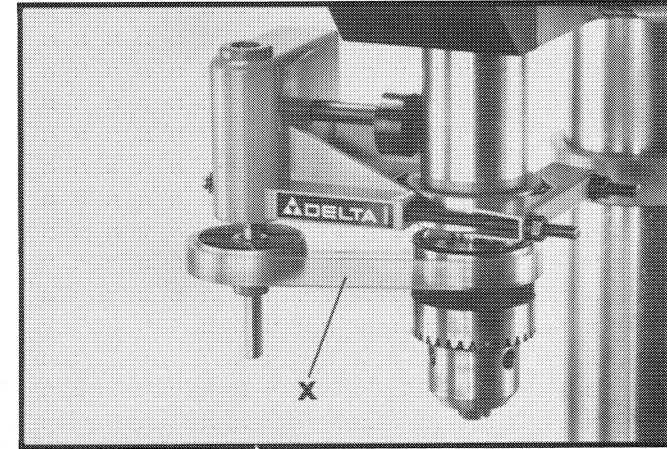

Fig. 15
13. Depending on the size of the drill press and chuck, choose either the short or the long drive belt and assemble the belt (X) Fig. 15, to the pulley and chuck as shown. The belt (X) should be lightly stretched over the pulley and chuck and should have enough tension to properly drive the pulley but should not be too tight that it causes an alignment problem.